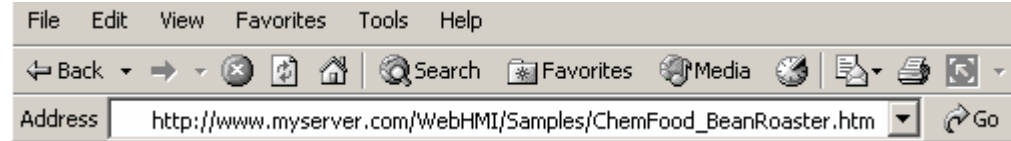

Figure 4.16. Viewing the Published HTML File in a Client Web Browser
3. Once the GenBroker Server is running, you can view the HTML file that you have published to the Web server from any client PC's Web browser. To view the published HTML file, open your Web browser and copy the URL address of the file into the **Address** field of the Web browser, as shown in **Figure 4.16**. A complete address is, for example, "http://www.myserver.com/webhmi/Samples/ChemFood_BeanRoaster.htm." Be sure to include the name of the HTML file that you have published and the ".htm" file extension. The GraphWorX display file is referenced in the HTML code so the display can be viewed as a Web page. The client's Web browser simply downloads the HTML file in which the .gdf file is referenced. All the client needs is a Web browser; it is not necessary to have ProcessView installed on client. The Web page is downloaded from the Web server across the Internet/intranet and appears in the client's Web browser window. The display is real-time, just as if you were viewing the runtime display in GraphWorX on the server machine; the OPC tag values change dynamically in the display.